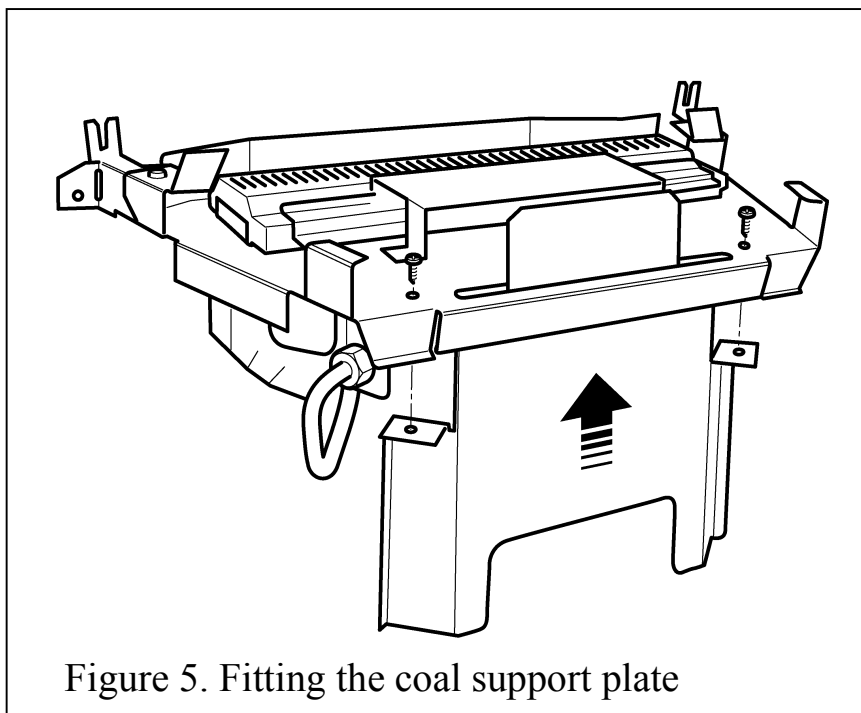

Figure 5. Fitting the coal support plate
7.3.1 Prior to installation of the burner the coal matrix support plate must be fitted (See figure 5). Two self-tapping screws retain the plate.